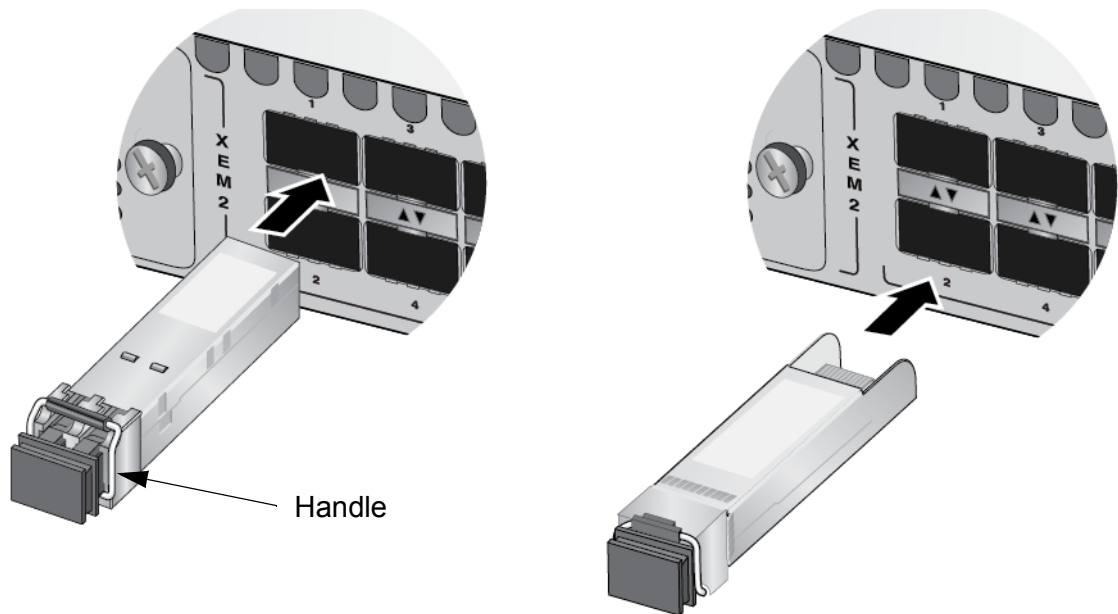

Figure 117. Installing an SFP or SFP+ Transceiver
- ❑ Base ports 1 to 24 and XEM2-8XSTm and XEM2-12XS Line Cards - To install a transceiver in an odd numbered port, position it with its handle on top. To install a transceiver in an even numbered port, position it with its handle on the bottom. Refer to Figure 117 on page 177.